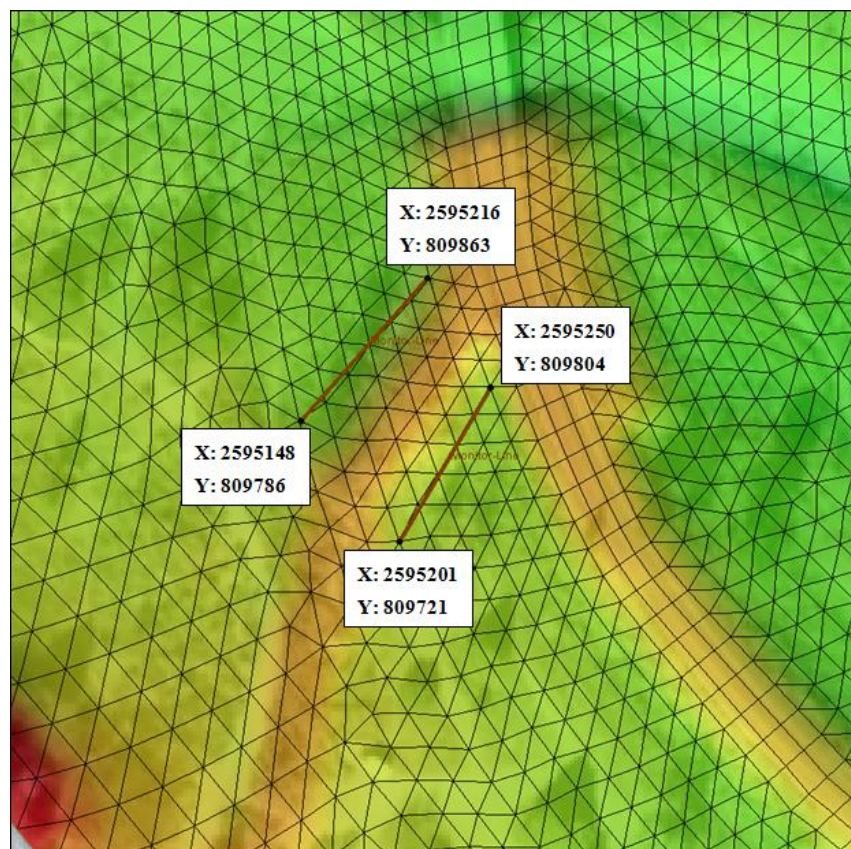

Figure 4 Coordinate location of arc end nodes
9. For consistency, change the coordinate locations of each of the 4 end nodes on the arcs to the coordinates shown in Figure 4. To do this, start by using the **Select Feature Point**  tool to select a point at the end of an arc and manually enter the X and Y values into the fields at the top of the Graphics Window in SMS.